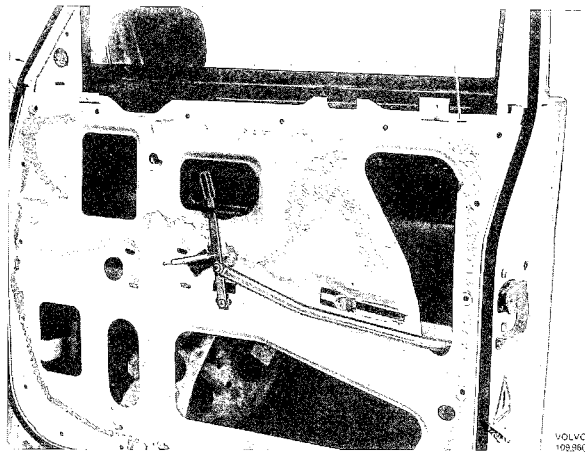

Fig. 8-13. Front door
First remove the screw between the door stop and door pillar and then the bolts between the hinges and door. The bolts are accessible when the door is opened. The door can then be taken off (Fig. 8-13).
2. Remove the lock cylinder by unscrewing the attaching screw which is fitted in the rear edge of the door (Fig. 8-13).
6. Unscrew the three screws for the door lock and remove the door lock. These screws are placed on the rear edge of the door (Fig. 8-13).